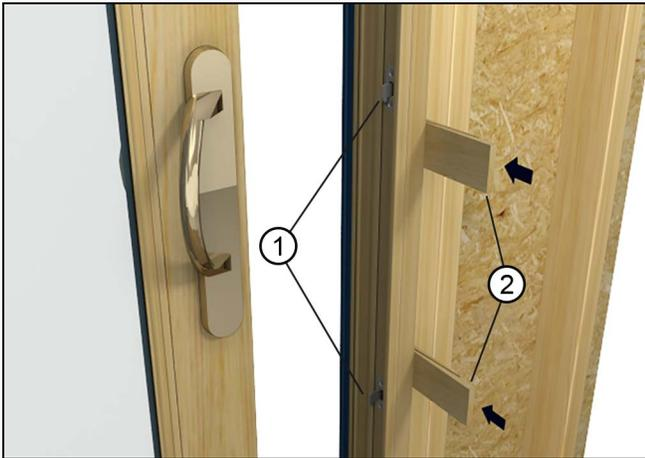

Figure 16
**8. For Sliding Doors:** Place shims at or near keepers or jamb strike. Place additional shims a maximum of 12" (305) apart. Be careful not to bow the jambs. See Figure 16.